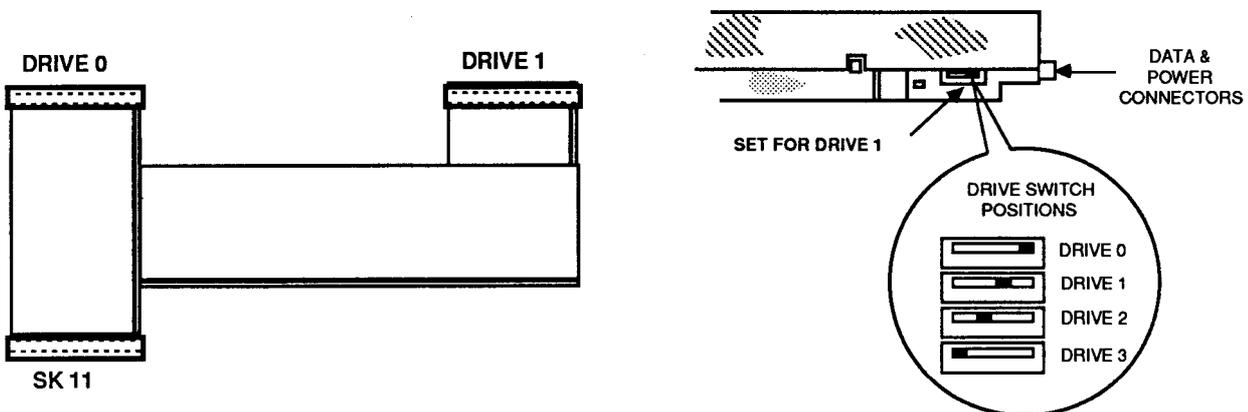

Fig. 3 - Dual drive data cable details & configuring the new drive as drive 1
3. Unplug and remove the ribbon-type data cable which connects between connector SK11 on the main printed circuit board and the connector on the rear of the original disc drive 0. Connect the centre connector on the new dual drive cable assembly to drive 0 and the end connector to SK11 (see Fig. 3).
5. Before fitting the new drive, it must be configured as drive 1. To do this, set the small slide switch on the side of the drive to position "1" (see Fig. 3).